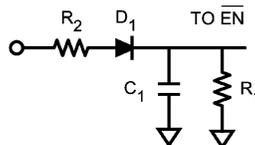
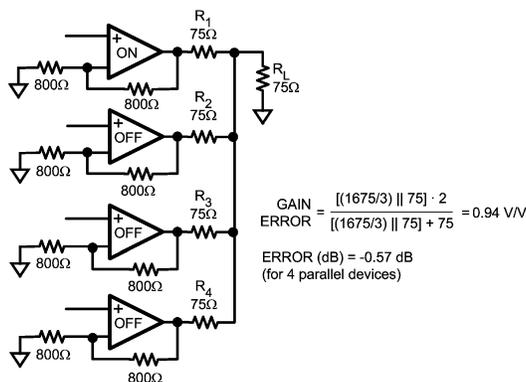

Figure 5. Delay Circuit Implementation
Figure 6. Multiplexer Input Expansion by Combining Outputs
If it is important in the end application to make sure that no two inputs are presented to the output at the same time, an optional delay block can be added prior to the ENABLE(EN) pin of each device, as shown. Figure 5 shows one possible approach to this delay circuit. The delay circuit shown will delay ENABLE's H to L transitions (R_1 and C_1 decay) but will not delay its L to H transition.
With the ENABLE pin putting the output stage into a high impedance state, several LMH6572's can be tied together to form a larger input MUX. However, there is a slight loading effect on the active output caused by the off-channel feedback and gain set resistors, as shown in Figure 5. Figure 6 is assuming there are four LMH6572 devices tied together to form a triple 8:1 MUX. With the internal resistors valued at approximately 800Ω, the gain error is about -0.57 dB, or about -6%.